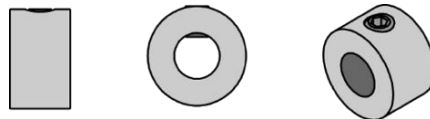

Figure 39: 6mm Shaft Collar
Shaft collars are used to prevent lateral (sideways/sliding) movement of a shaft, or a part on the shaft. A shaft collar is a hollow cylinder with one more set screws which tighten towards its center and an inner dimension (ID) that is just slightly larger than the shaft it is being used on (Figure 39). Since shaft collars are used to prevent lateral shaft movement they are often used in place of shaft spacers.